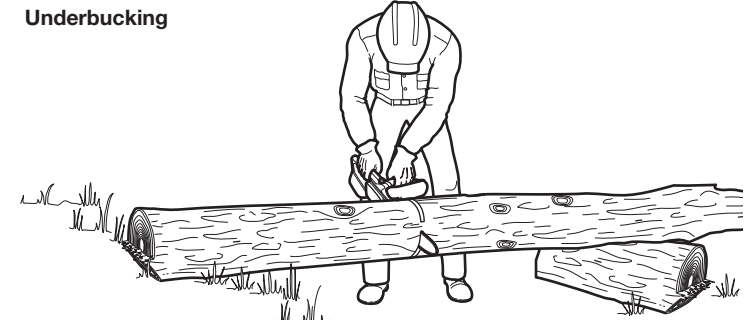

Fig. 25
1. Begin cutting from below, with the top of the saw chain against the bottom of the log (Fig. 25).